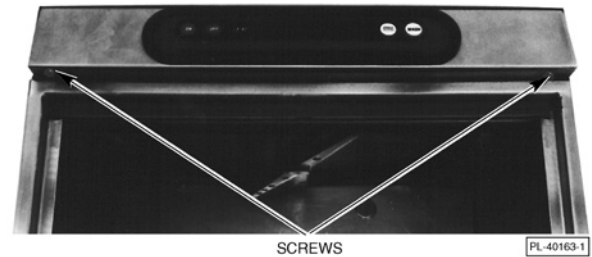

Fig. 2
2. Remove the two screws (Fig. 2) securing the controls drawer and open it fully.